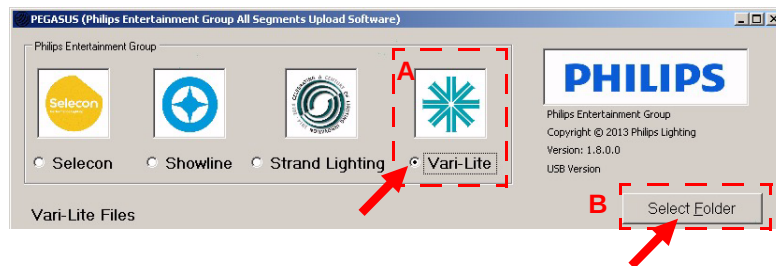

Figure 3-10: PEGASUS Software Selection Screen
- a. Select Vari-Lite for luminaire type (as shown in Figure 3-10).
- b. As indicated in Figure 3-10, click on Select Folder button to open browser window.